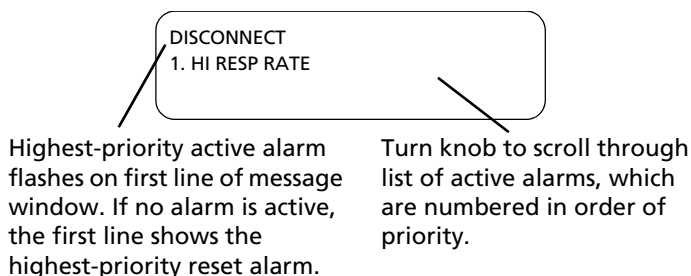

Figure 6-1. Using the *More active alarms* menu function to view active alarms
2. Turn the knob to scroll through the list of active alarms, which are listed in order of priority (see Figure 6-1). Each alarm is listed only once, even if the alarm occurred several times.